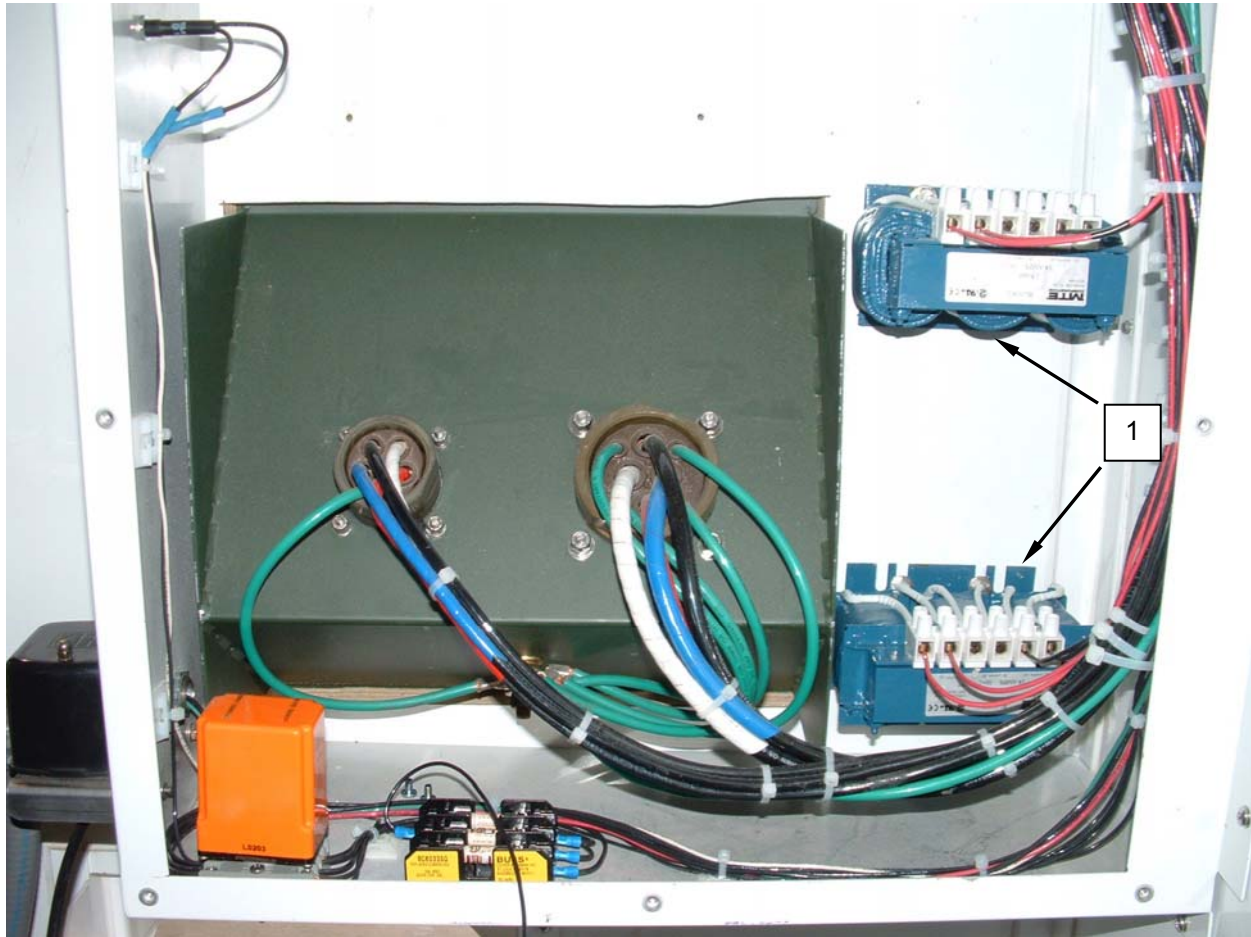

Figure 1. Inspect the Line Reactors.
3. Inspect line reactor (**Figure 1, Item 1**) for loose connections, signs of burning, or material damage.
6. Replace an open or shorted reactor (**Figure 1, Item 1**).